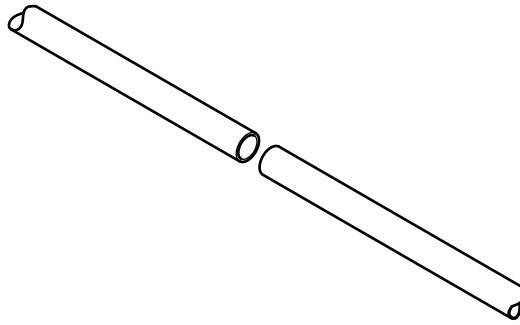

Fig. 11
- (e) Fig. 11 shows two $\text{Ø}25\text{mm}$ steel tubes that will be joined end to end to provide an extended length. Welding the tube end to end would not be structurally sound.